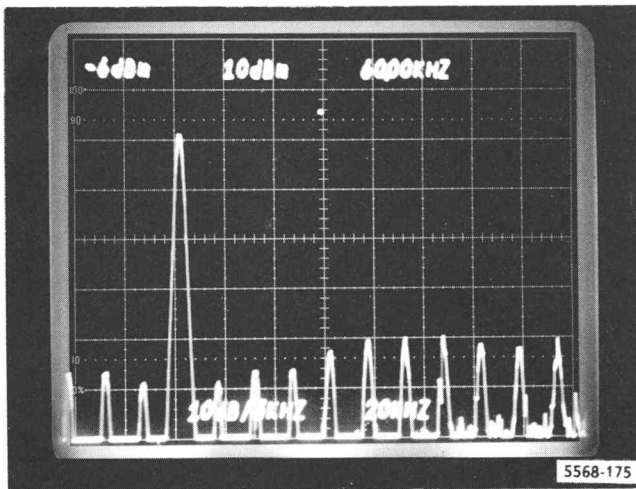

Fig. 4-67. Minimal video products.
- c. **ADJUST** R00, R30, and, if necessary, R50 for minimum video products. See Fig. 4-67.